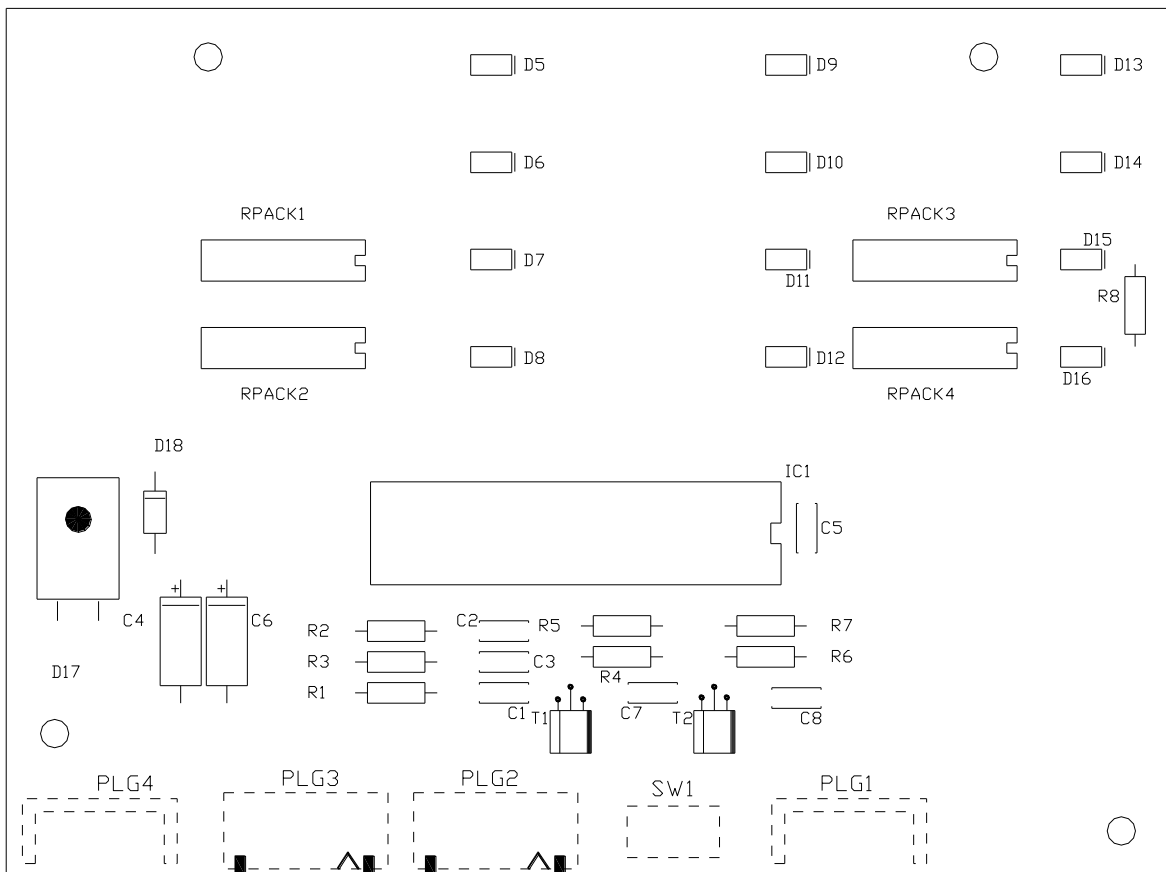

Figure 62 Status Display PCB
3.6.4 Status Display PCB Part No. 1-44782-K102-02 (Refer to Figure 62)